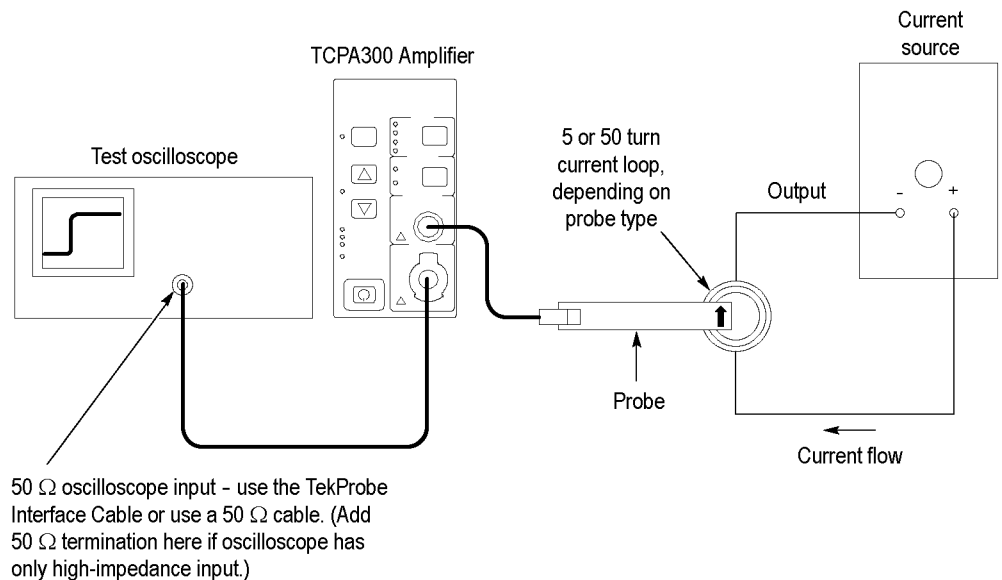

Figure 6: Overload test setup
1. Connect the circuit as shown. (See Figure 6.) The correct current loop to use for the probe you are testing is available. (See Table 10 on page 16.)